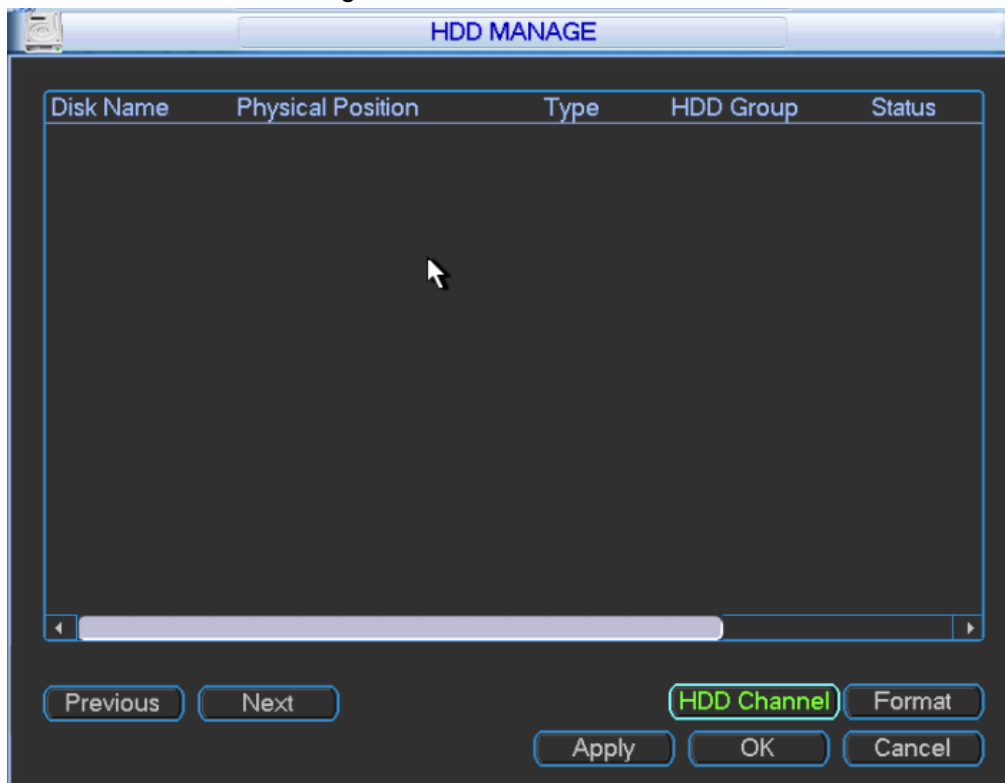

Figure 3-68
Step 1 In main menu, select “Advance > HDD Manage”. The system displays “HDD Manage” interface, as shown in Figure 3-68.